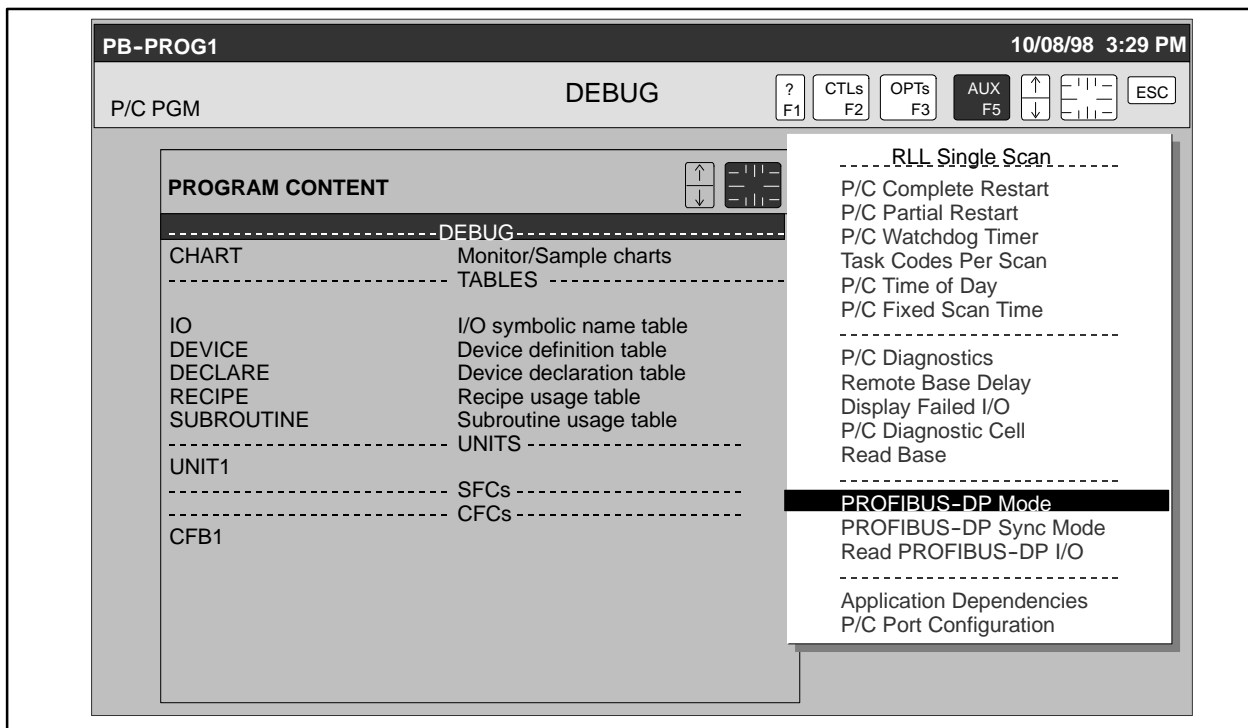

Figure 9-17 Selecting PROFIBUS-DP Mode
2. Use the arrow keys to highlight **PROFIBUS-DP Mode** (Figure 9-17).